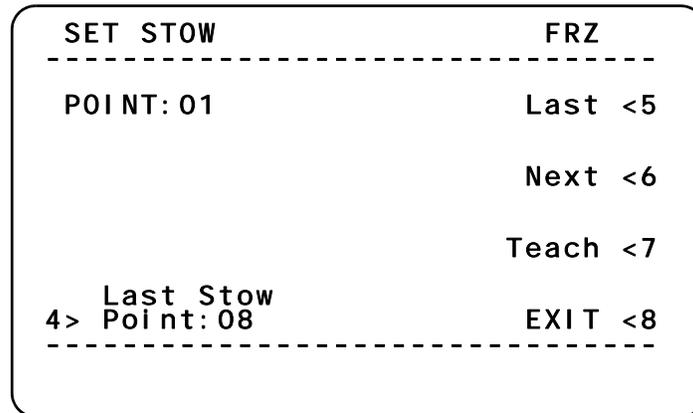

Figure 21 SET STOW menu
The stow path is a pre-recorded sequence of 2 to 16 points (positions) that the slave arm automatically travels to and passes through when the STOW IN or STOW OUT (deploy) key is pressed in the STOW OUT or SHUT DOWN menus. Use the SET STOW menu (Figure 21) to create or change the stow path and stowed/deployed positions for your slave arm.
2. Access the SET STOW menu (Figure 21): MAIN/SETUP/SET STOW.